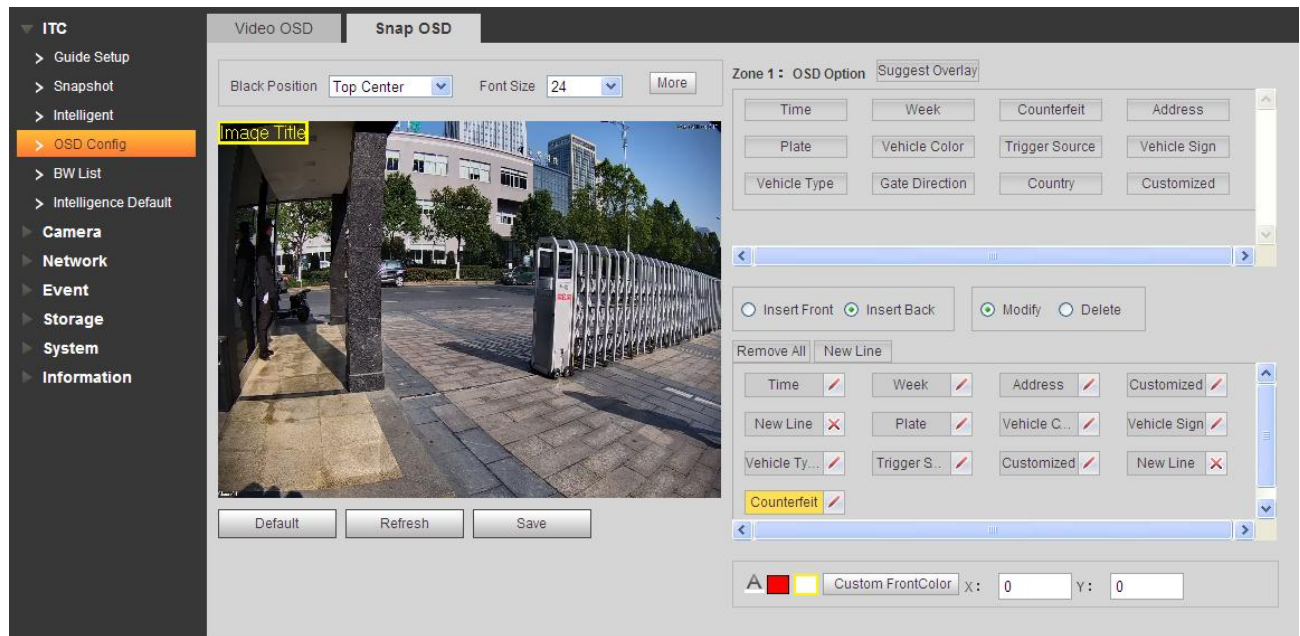

Figure 4-9
- Select Setup>ITC>OST Config>Snap PSD. See Figure 4-9.